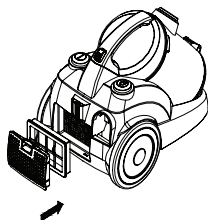

*Figure 12
2. Open the exhaust-filter cover by pulling on the lip on the cover. Remove the exhaust filter from the appliance, see figure 12.